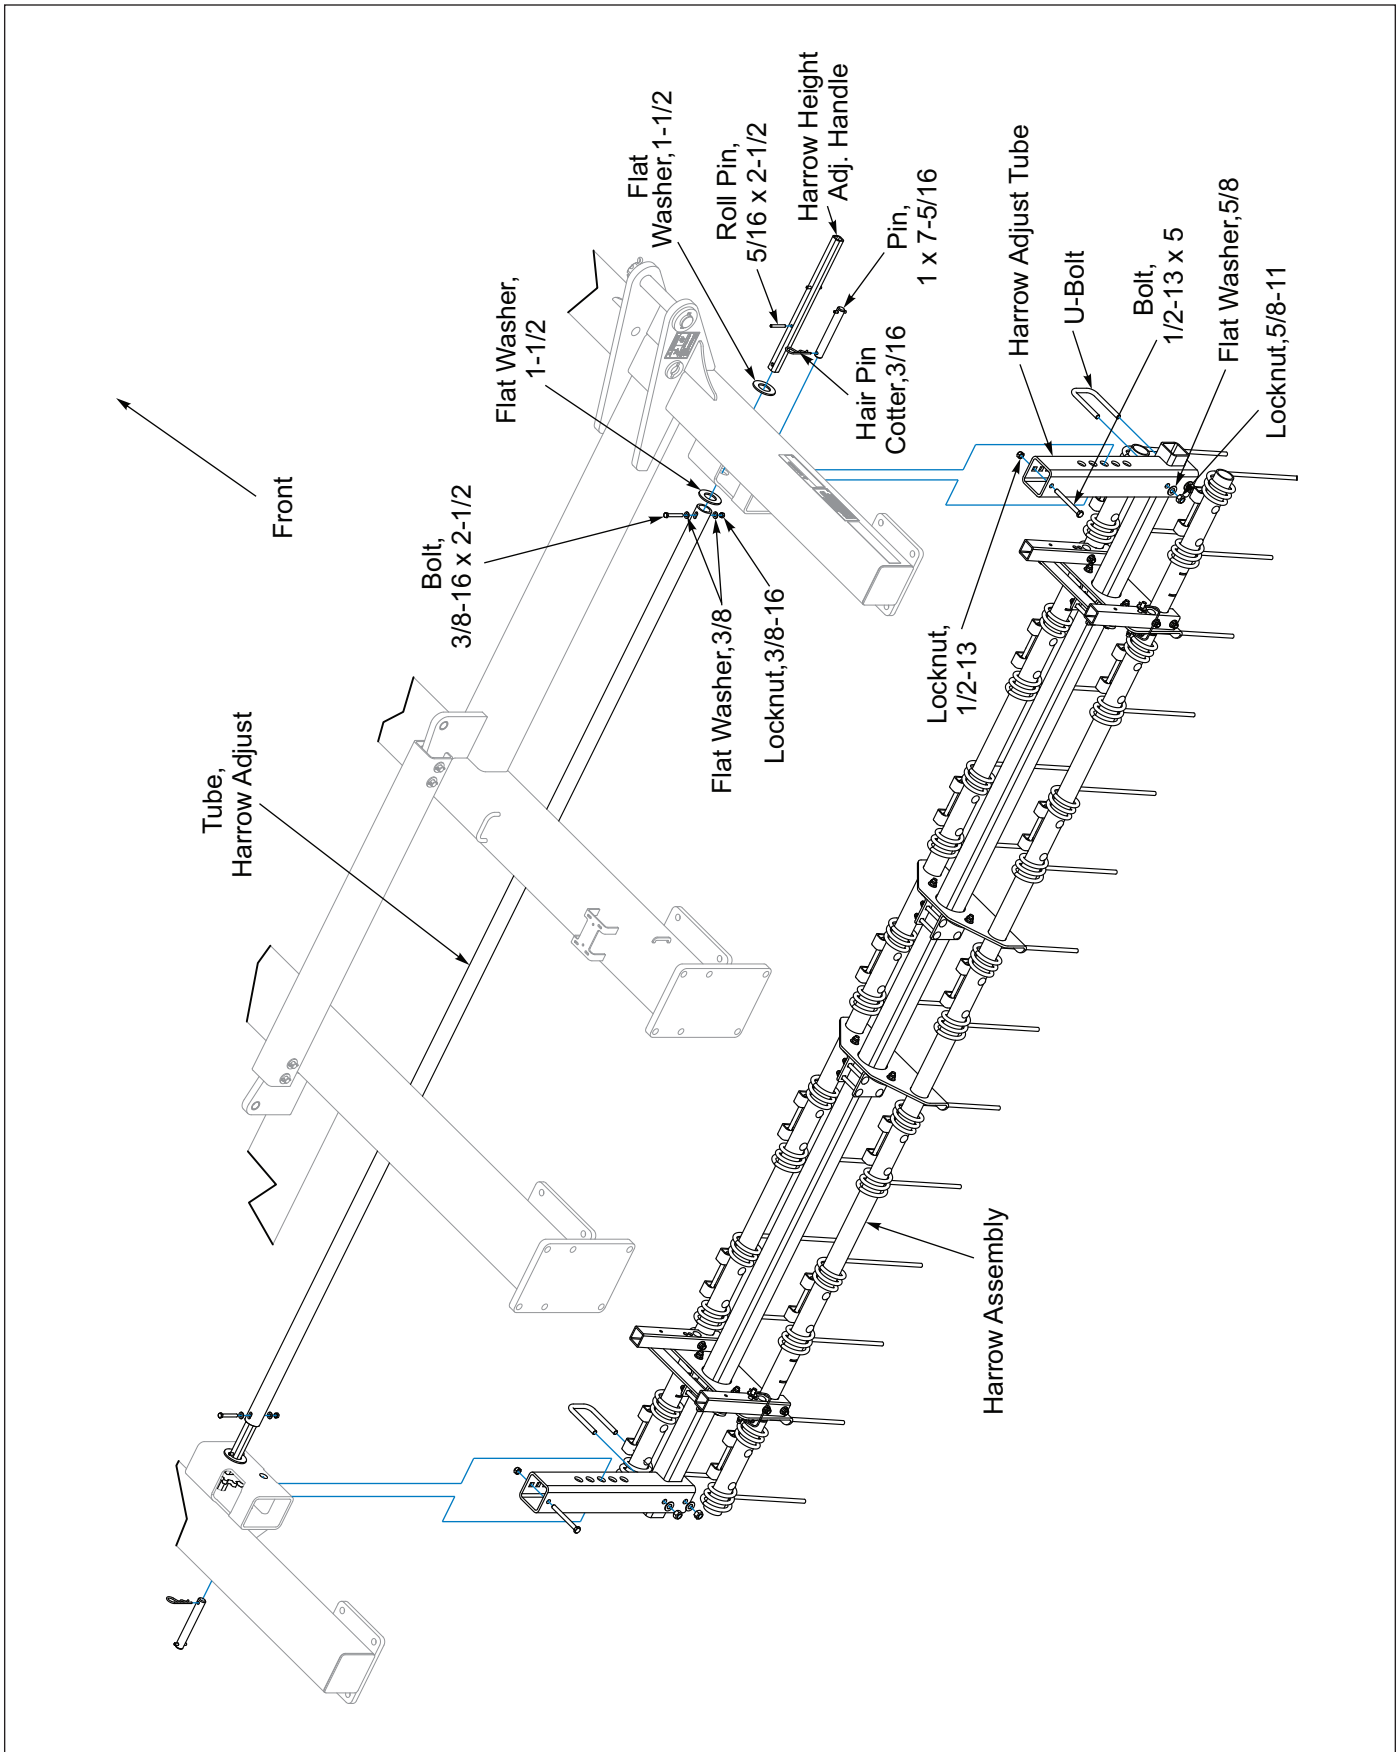

Figure 2-43: Center Frame 2-Row Harrow Installation
1. Remove 1 x 7-5/16 Pin from each Frame Adjuster Mount located on the inside of the Outer Frame Tube. Insert a Harrow Adjustment Tube into each Frame Adjuster Mount and re-insert 1 x 7-5/16 Pin in the bottom hole. Secure with 3/16 Hair Pin Cotter. **See Figure 2-43.**
2. The 2-Bar Harrow comes factory assembled. Lift Harrow Assembly and slide the Harrow 3 x 3 Tube into the cut-out portion of the Harrow Adjustment Tube and insert a 1/2-13 U-Bolt on each side. **See Figures 2-43 and 2-44.** Check Harrow position in relation to the Frame and secure with Flat Washer and Locknut.